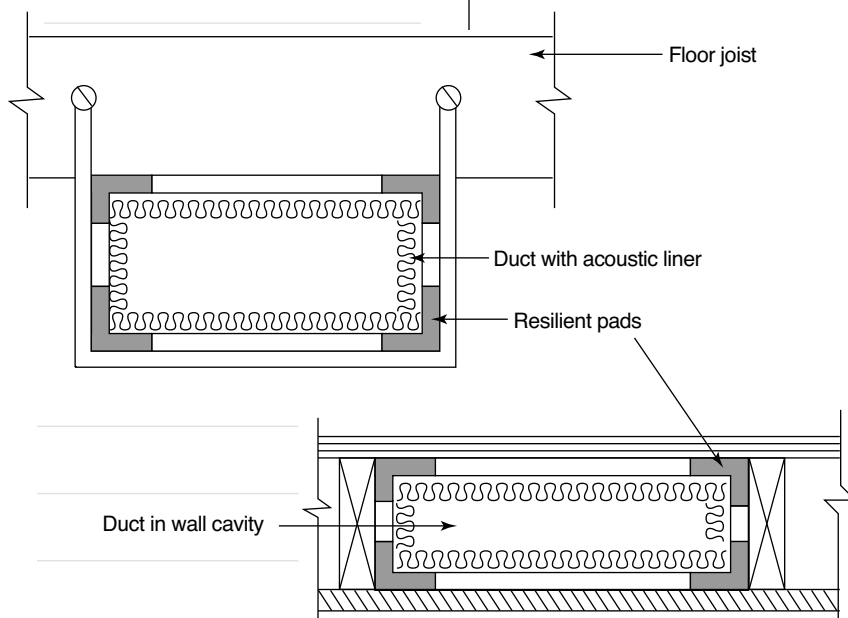

FIGURE 26
- ◆ Put resilient pads between ducts and supports (see Figure 26).